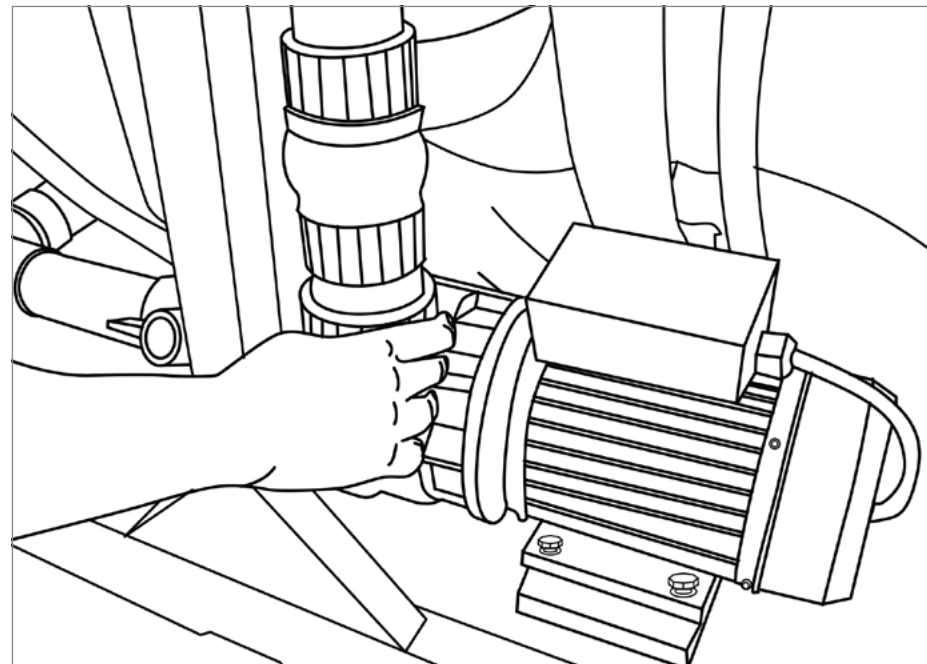

Figure 1
- 3) Loosen the pump unions until you hear all the air escapes and water starts to drip out (see Figure 1).